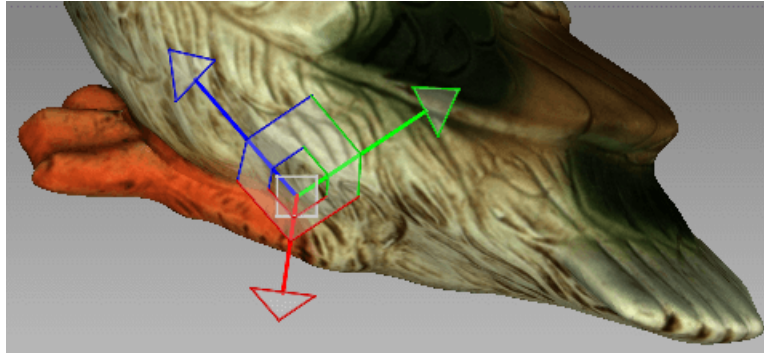

Figure 166: Translation control
- Translate the object in the *3D View* window by dragging the corresponding control (see Figure 166):